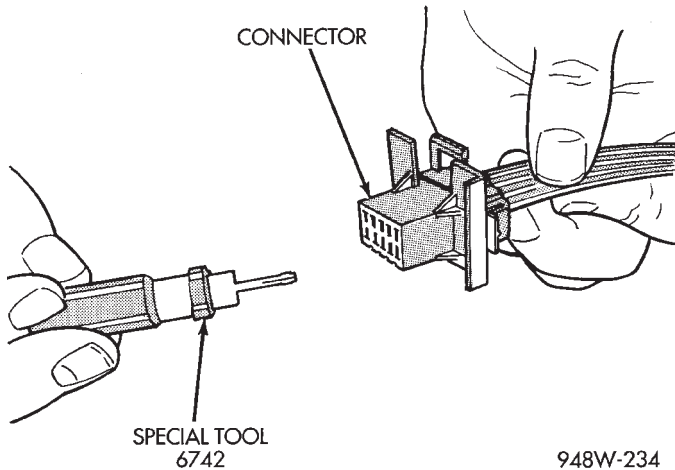

Fig. 10 Molex Connector Repair
- (1) Disconnect battery.
- (2) Disconnect the connector from its mating half/component.
- (3) Insert the terminal releasing special tool 6742 into the terminal end of the connector (Fig. 10).